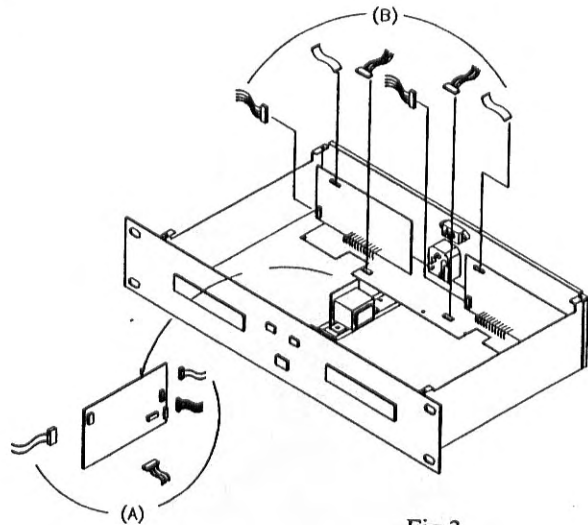

Fig.3
3. REMOVAL OF TRANSFORMER PCB AND MAIN PCB CONNECTOR(Fig.3)